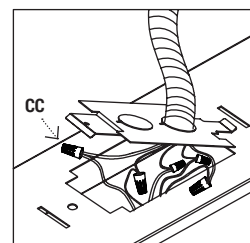

Figure 4
2. Remove the access plate (Part B) and knockout a hole (Part C). (Figure 4)
3. Make wire connections in accordance with local codes by using the wire nuts (Part CC) to secure wiring connection. (Figure 4)